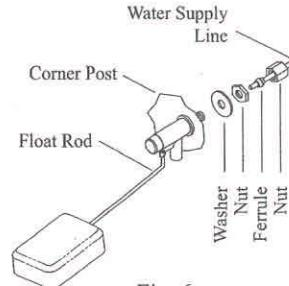

Fig. 6
- Install float valve.** Install valve in the provided hole in corner post (Fig. 6) and attach water supply line.
- Fill pan.** Allow water to fill to within 1" of the top of the overflow pipe and adjust float to maintain this water level. This can be accomplished by bending the float rod (Fig. 6).